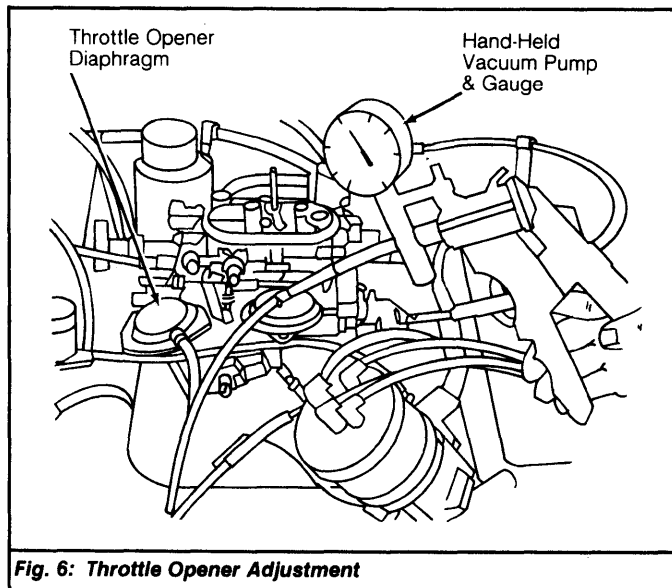

Fig. 6: Throttle Opener Adjustment
- 1) Connect tachometer to engine. Start and warm engine to normal operating temperature. Unhook hose from throttle opener diaphragm. Connect a hand vacuum pump. See Fig. 6.